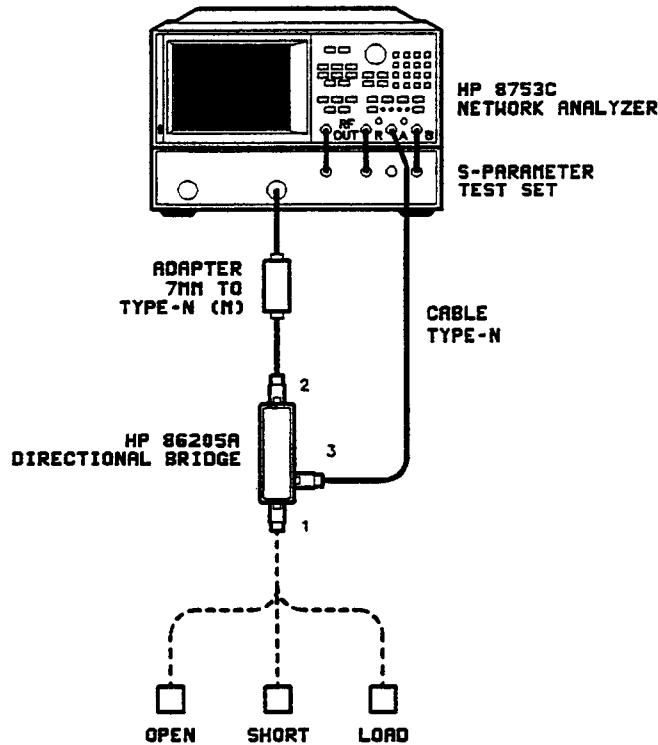

Figure 3-8. Equipment Setup for S22 1-Port Measurement Calibration
- When prompted, connect the calibration devices to port 1 of the bridge as shown in Figure 3-8 (measure the load last).